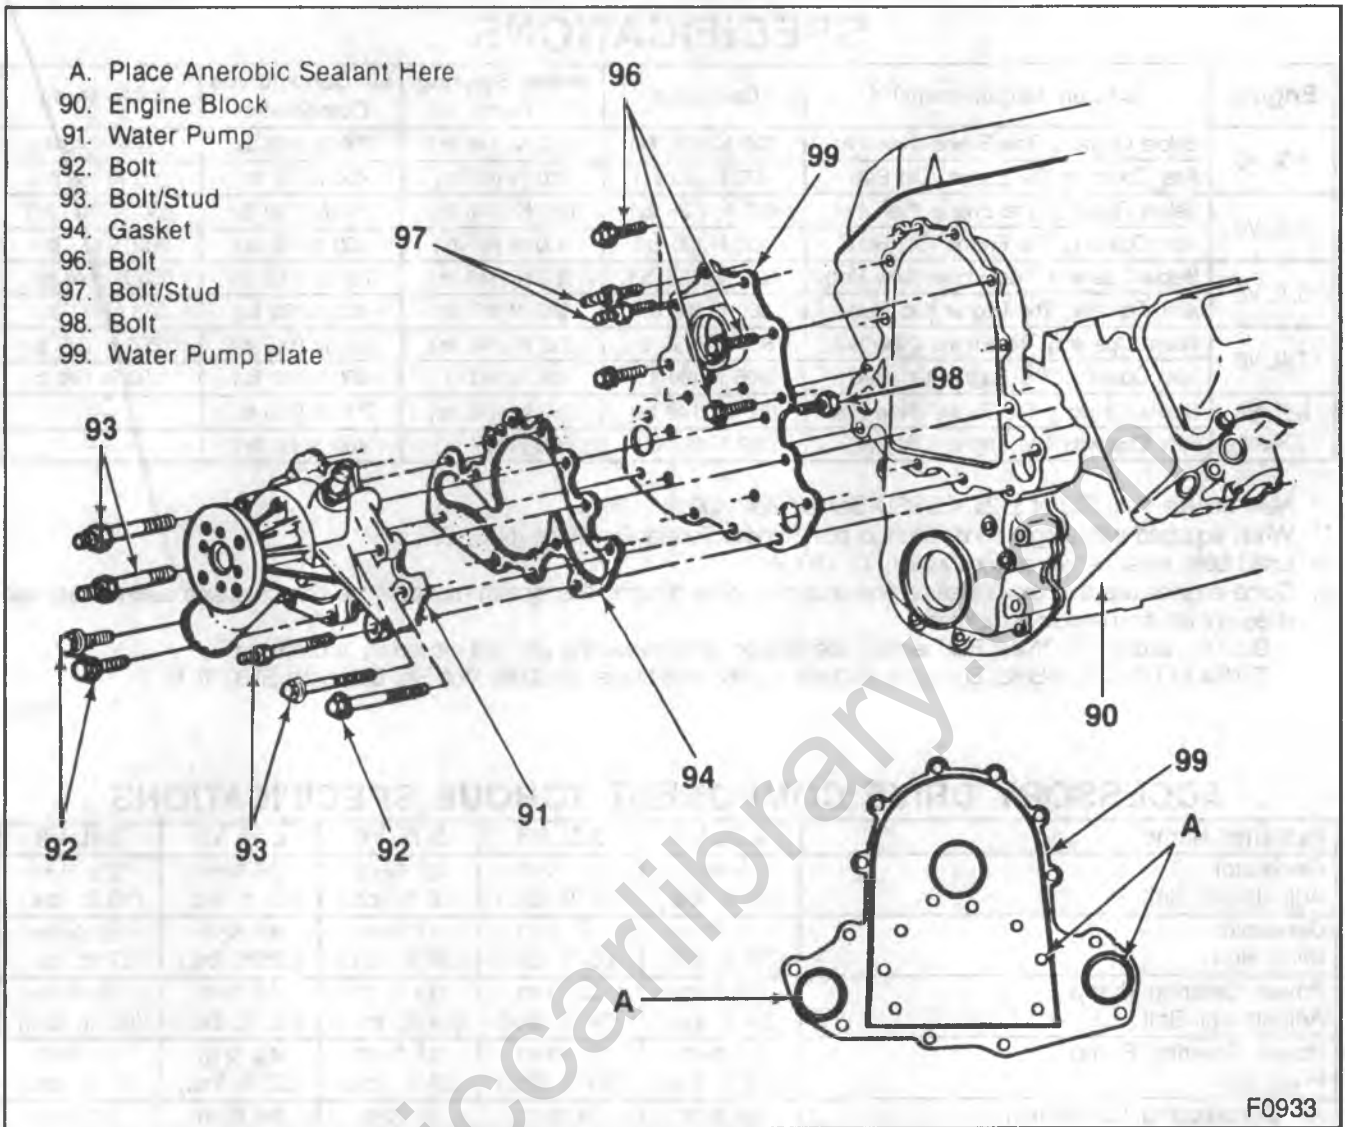

Figure 51—Water Pump Installation—6.2L Diesel
12. Bolts (96 and 97), water pump plate (99) and the water pump (91) (figure 51).
13. Water pump plate (99) from the water pump (91).
14. Bolts (92 and 93) and the gasket (94).
Install or Connect (Figure 51)